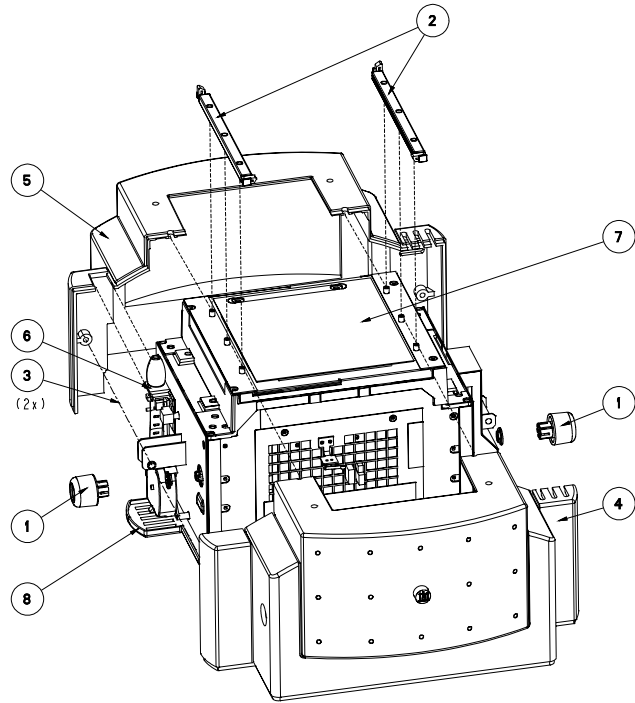

Figure 4: Remove Aesthetic Cover
- Remove the DSC knobs (item 1, Figure 4), by pulling the knobs outward.
- Remove the accessory rails (item 2, Figure 4), by loosening the 6 screws.
- Remove the 2 screws, (item 3, Figure 4)
- Remove the two aesthetic covers (items 4 and 5, Figure 4), first lift item 4, and then lift item 5.
When reassembling the Aesthetic covers, be sure that the ruler guidance, item 6 Figure 4 page 20 is mounted correctly between front and rear covers.